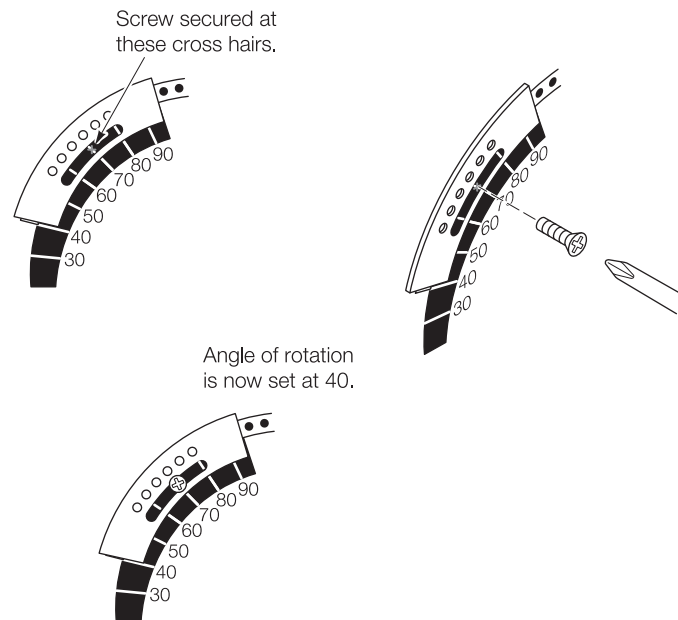

Figure-8 Securing the AM-689 Rotation Limiter.
2. Locate the AM-689 rotation limiter on the actuator so that its edge lines up with the degree graduation on the actuator face which corresponds with the required rotation. See Figure-8.